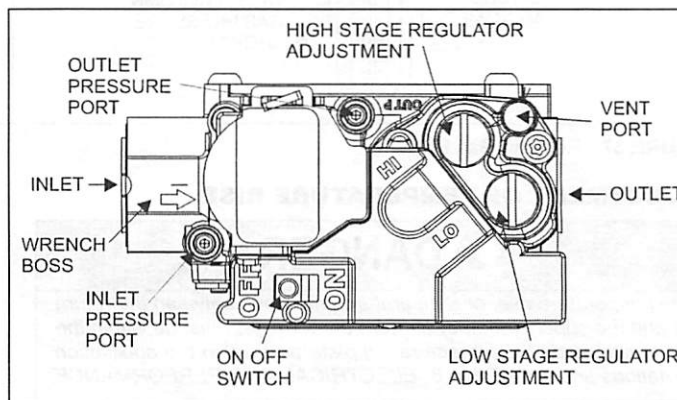

FIGURE 36: Gas Valve
Manifold gas pressure may be measured by two different procedures. It may be measured with the burner box cover in place or it may be measured with the burner box cover removed. Follow the appropriate section in the instructions below. Refer to Figure 36 for a drawing of the locations of the pressure ports on the gas valve.
1. Refer to Figure 36 for location of pressure regulator adjustment cap and adjustment screw on main gas valve.